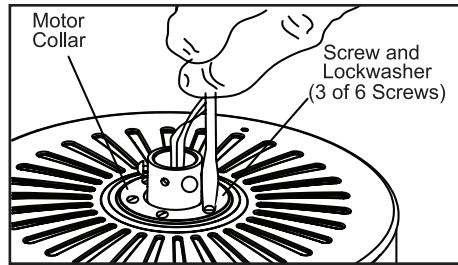

Figure 9
- Remove three of the six screws and lockwashers (every other one) securing the motor collar to the top of the fan motor housing (Figure 9).